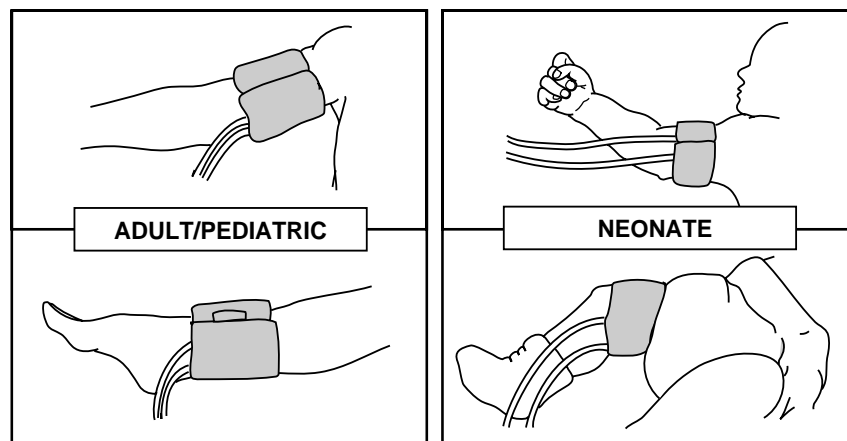

Figure 5-1. Recommended Cuff Placement
4. Select the appropriate measurement site (see Figure 5-1). For neonates, the arm or leg can be used. For adults/pediatrics, the preferred location is the arm. When the arm cannot be used, placement on the ankle is preferred over the thigh since measurement on the adult thigh may be uncomfortable. When there is no suitable alternative for the thigh (e.g. shock), set the monitor's determination cycle to five (5) minutes or longer, unless the clinical situation requires more frequent measurement.
8. Place the cuff snugly on the patient as shown in Figure 5-1. In the case of upper arm placement, it is recommended to place the cuff as proximally as possible. Observe the mark on the inside of the cuff to be placed over the artery. Be sure the cuff is snug, but not so tight as to prevent venous return between determinations.